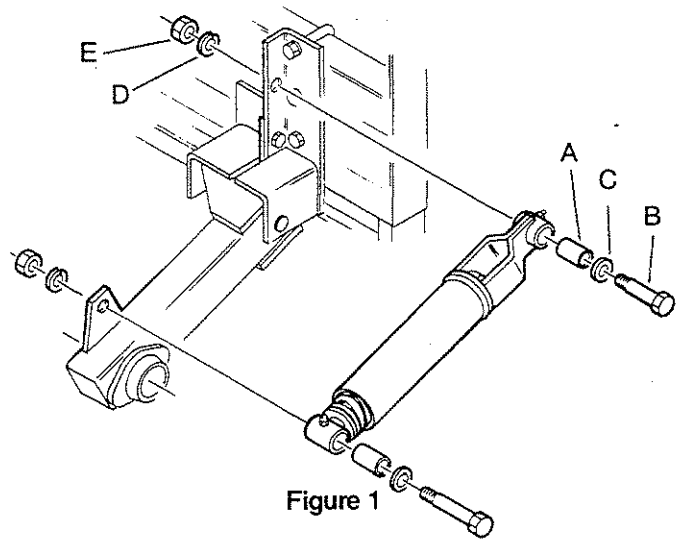

Figure 1
2. With the spring end down, slide the bushing (A) into the top of the Spring-Loaded Gauge Wheel Link (see Figure 1). Attach the link to the top pivot mounting using a $\frac{5}{8}$ " x 3" long bolt (B), flatwasher (C), lockwasher (D) and hex nut (E). Grinding off some excess length of the pivot mounting U-bolt may be necessary to achieve a secure attachment.